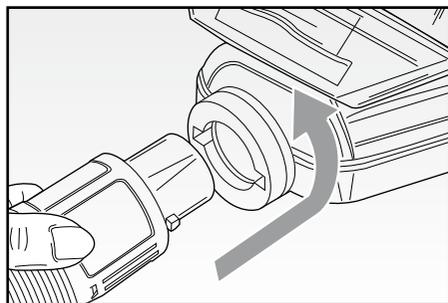

Fig. 2
- Insert the suction device (M) into the air inlet opening (G) by slightly rotating it until it locks (Fig. 2).